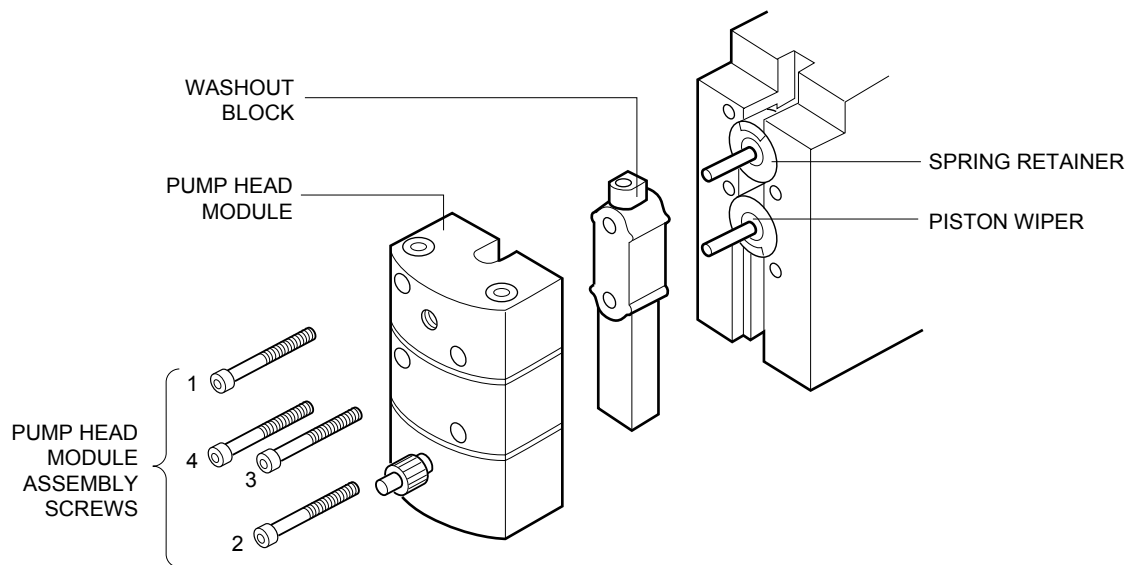

Figure 66. BioLogic HR Workstation Pump Mechanism Parts
Washing behind the piston seal extends seal life. Insert a 10 ml syringe filled with deionized water in the Washout Port luer fitting (at top of washout block, Figure 66). A 10-ml syringe is provided in the BioLogic HR System Fittings Kit. Each pumphead should get a 10 ml washout at the end of the day's operation. Run off water exits through the Washout Drain between the two pumpheads. It can be collected in a small beaker.
1. **Replacing a piston seal.** (Refer to Figure 66.)
- g. When both seals have been replaced, reassemble the pump head by reversing the sequence shown in Figure 66. Firstly, wipe the pistons with a dampened cloth to ensure that no crystallized salt residues are present which could damage the new seals. Then, position the Washout Block onto the pistons over the piston wipers, and set the pump head module back onto the Washout Block on the BioLogic HR Workstation. (The Washout Block guides the pump head module in the reattachment process and protects the pistons.)
- a. Remove the Pump Head Module from the Workstation. Refer to Figure 66 and the previous procedure.
- e. Position the Washout Block over the pistons and set the pump head module back onto the Washout Block on the BioLogic HR Workstation. See Figure 66. (The Washout Block guides the pump head module in the reattachment process and protects the pistons.)
Piston wipers are available in the event that they are lost during any of the pump maintenance procedures. If the piston wiper has fallen out of the spring retainer, simply place a new piston wiper onto the piston inside the spring retainer. See Figure 66.